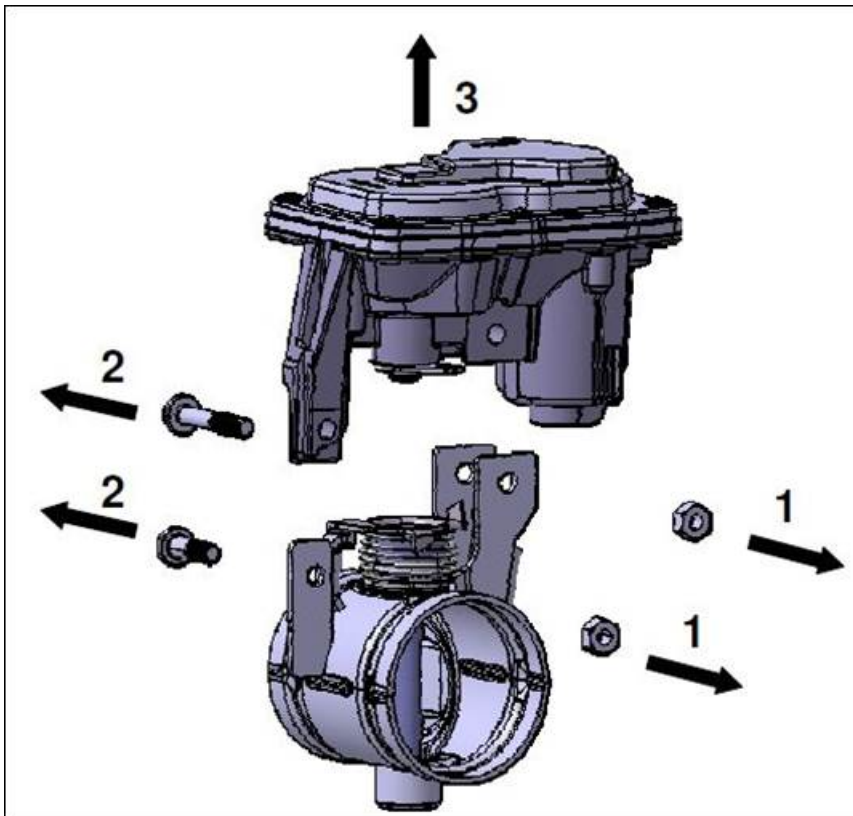

Figure 2
- Unscrew the two nuts (inset 1, Figure 2) by using a number 10mm wrench (and if necessary a Torx plus IP30 wrench).
- Disassemble the actuator (Inset 3) from the rest of the exhaust flap by pulling along in the direction of the flap axis (Figure 2).